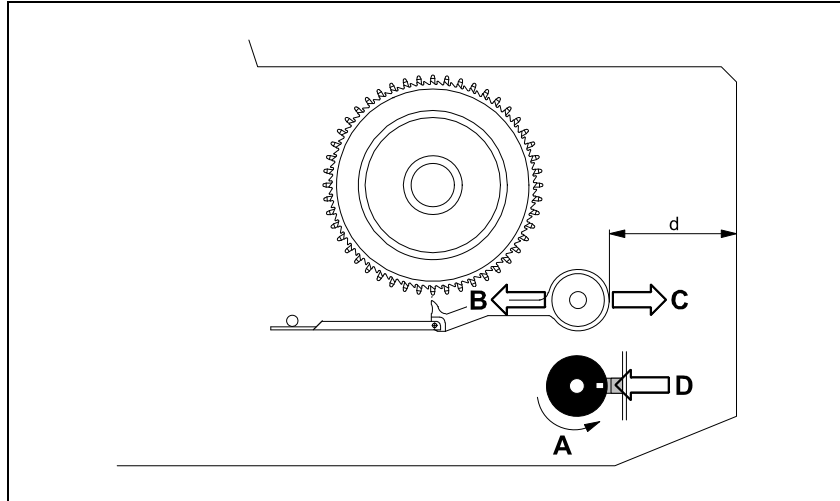

Figure 13-20. Setting the code disc.
2. Turn the multi-hole code disc by hand ('A' in Figure 13-20) until the eccentric shaft with the feeder arms are as far from the magazine front as possible ('B'), i.e. when the 'd' distance is maximum.